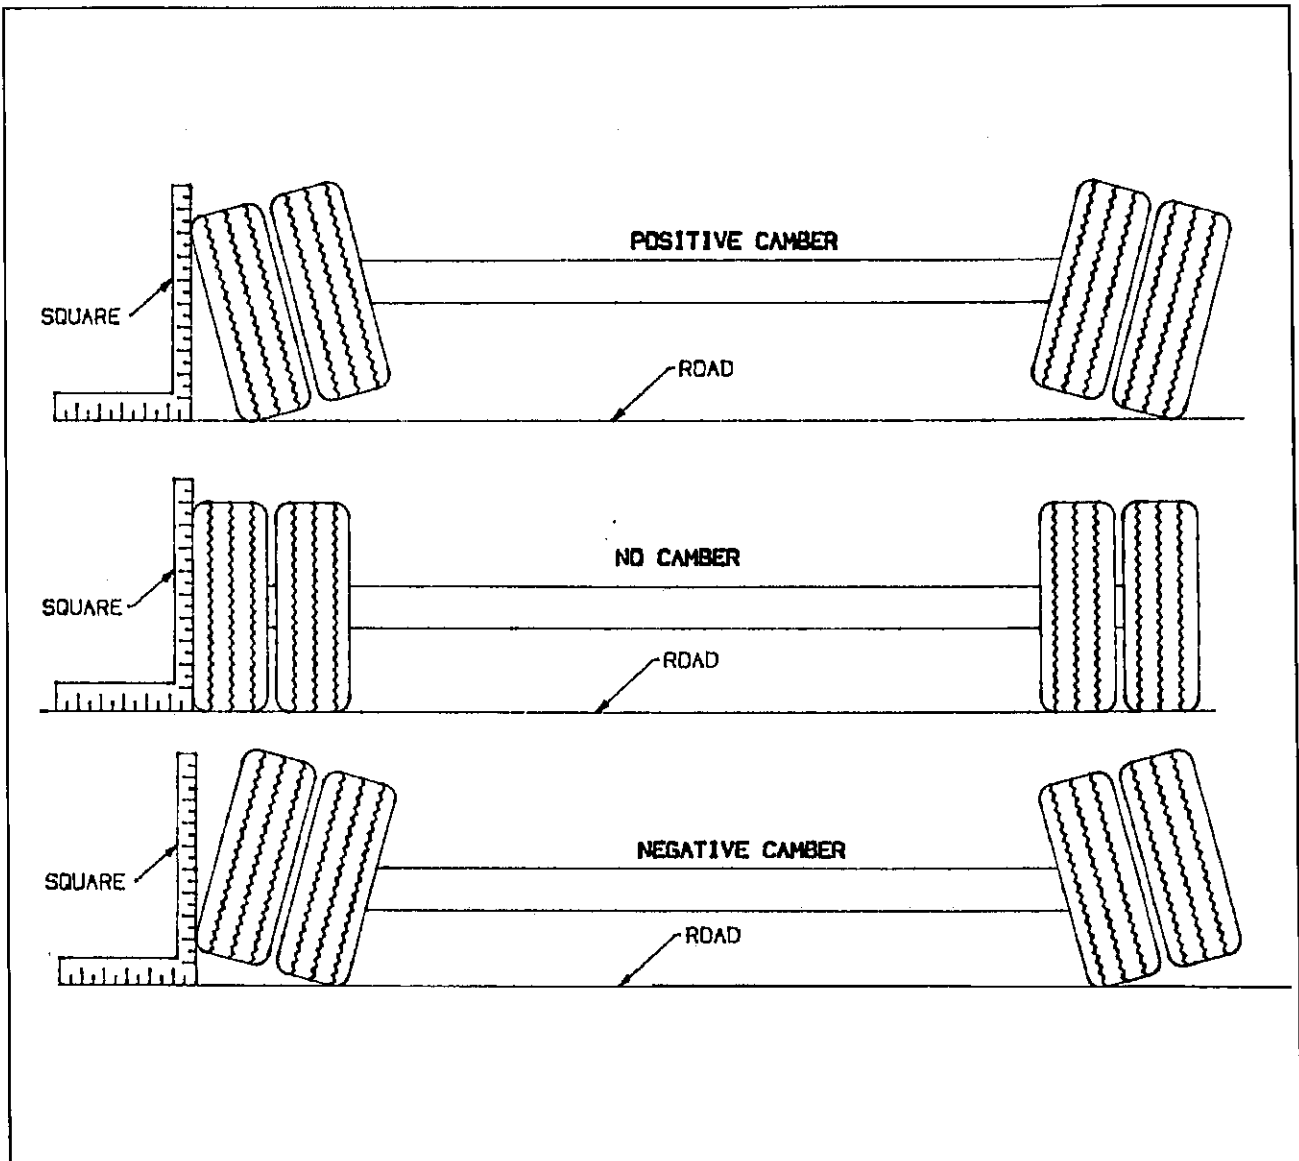

Fig. 4-7 Examples of Camber
- d. Follow the same procedures as in Paragraph 4-10.1 b and c, except place the axle gauge above and below the axle. If gauge point gap is found, the axle has positive or negative camber. The semitrailer axle has no camber from the factory, thus if it is found to have positive or negative camber, axle replacement is necessary (see Figure 4-7 for examples of camber).